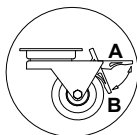

Fig.4 Wheel system, moving system
- The device should be placed on an even and on a sufficiently hard base, and then level it with the help of levelling feet. In case of moving devices it is necessary to immobilise wheels in order to prevent their movement during exploitation Fig.4